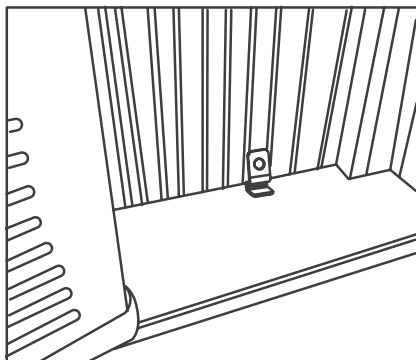
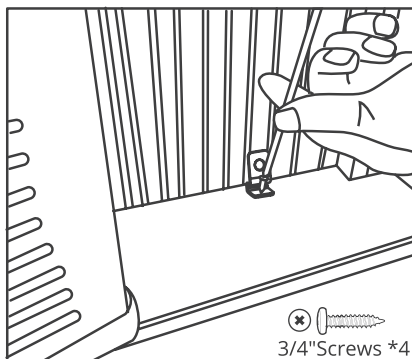

Fig.7
Fig.8
4. Place the frame lock between the frame extensions and the window sill as shown (Fig.7). Drive 3/4" (19 mm) locking screws through the frame lock and into the sill (Fig.8).